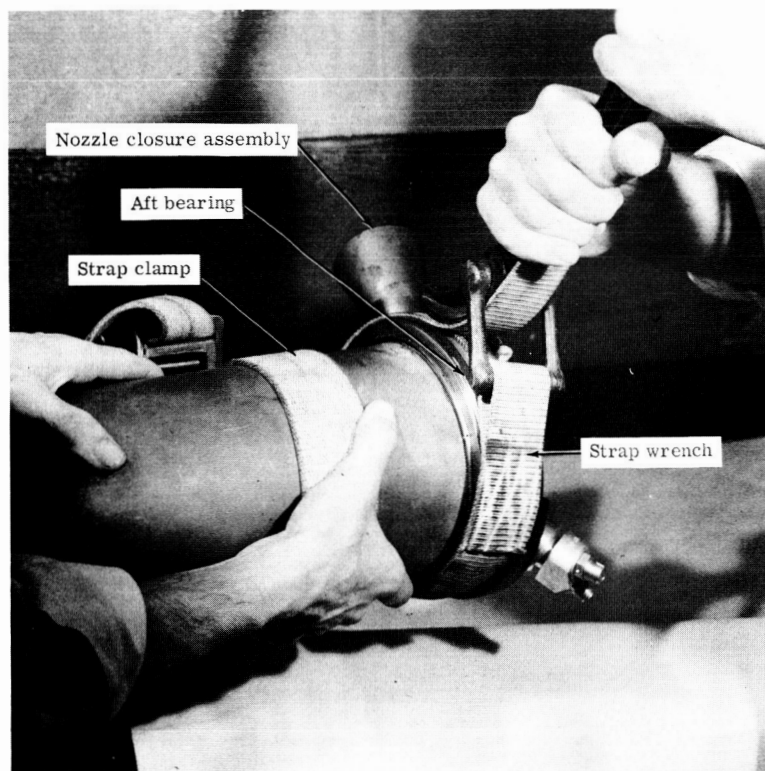

Figure 2-5. Tightening nozzle closure on case.
- e. Screw the nozzle closure (EX-68961) onto the case and tighten with a strap wrench. See Figure 2-5.